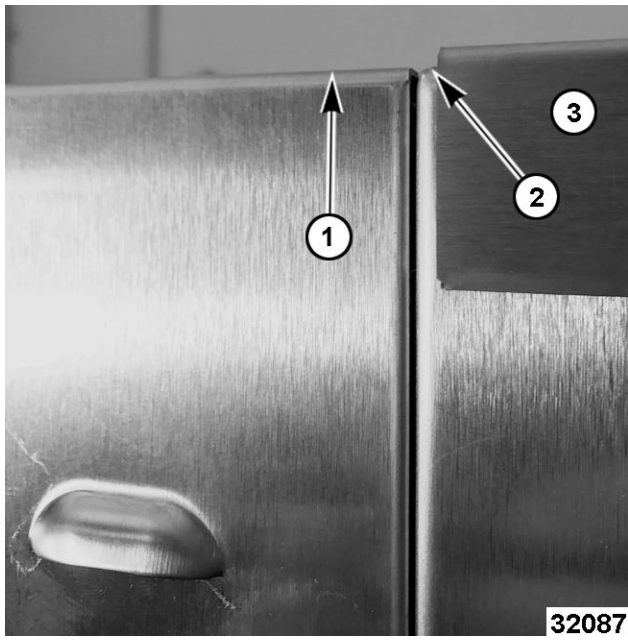

Fig. 128
3. Adjust the control panel (1, Fig. 128) until it is flush with the frame (2, Fig. 128) of the oven along the top (Fig. 127) and side. Not with the top trim (3, Fig. 128).